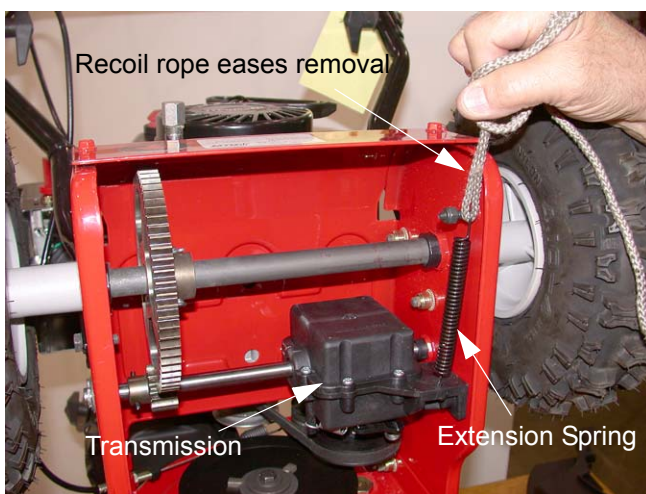

Figure 4.7
- 4.7. Remove the spring that connects the transmission to a bolt on the right hand side of the engine frame. See Figure 4.7.